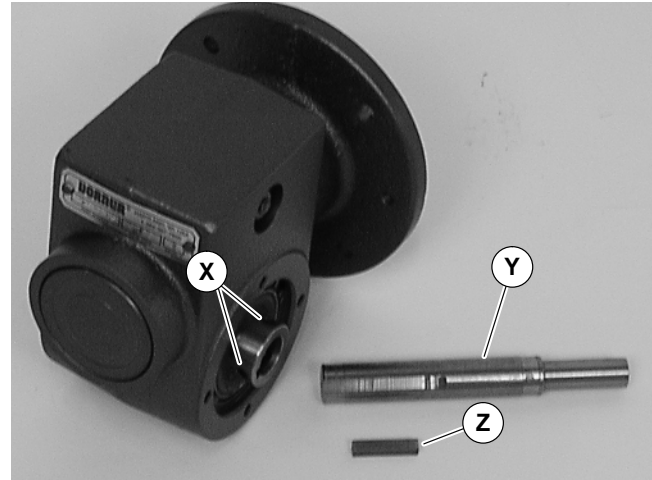

Figure 15
7. Remove two (2) screws (U) and detach output shaft cover (V).
8. Remove gear reducer output shaft key (W).
9. Loosen six (6) set screws (X of Figure 15). Remove drive shaft (Y) and key (Z).
11. Replace the original shaft components into new gear reducer (see Figure 15).